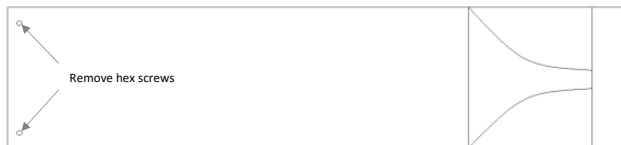

Fig. 1
- Remove the four baseplate hex screws and remove baseplate (see Fig. 1)